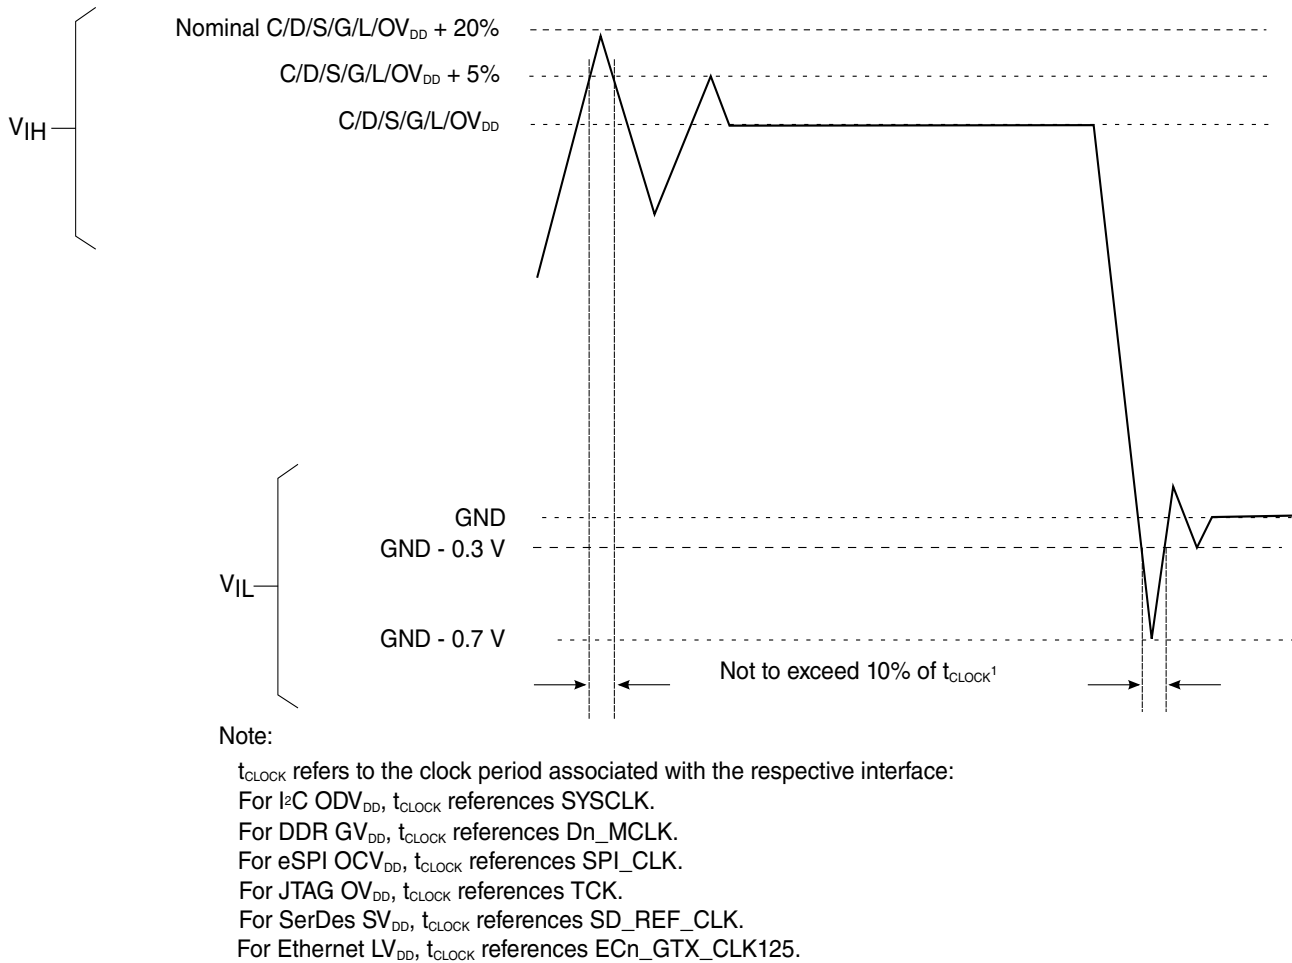

Figure 7. Overshoot/Undershoot voltage for CV_{DD}/GV_{DD}/LV_{DD}/OV_{DD}/SV_{DD}/DV_{DD}
6. (C, S,G,L,O,D) V_{IN} , $USBn_V_{IN_3P3}$, $USBn_V_{IN_1P8}$ and $D1_MV_{REF}$ may overshoot/undershoot to a voltage and for a maximum duration as shown in Figure 7 .